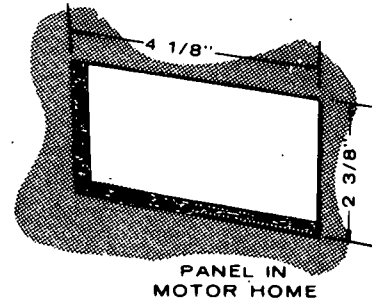

FIGURE 11. MOTOR HOME CUTOUT
1. Select control location. Using Figure 11 as a guide, drill screw holes and cut hole to accommodate remote switch in panel.